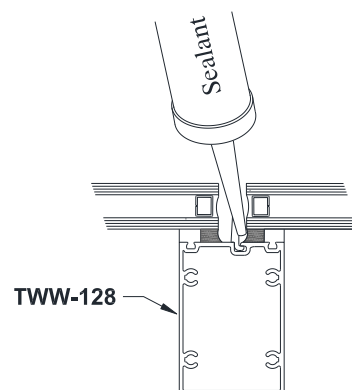

Figure 56:
- 16.5.4 Apply structural silicone to Horizontals, ensuring the glazing cavity is completely filled to the **GP-106** spacer gasket. Tool flush with edge of glass. Reference *Figure 56*